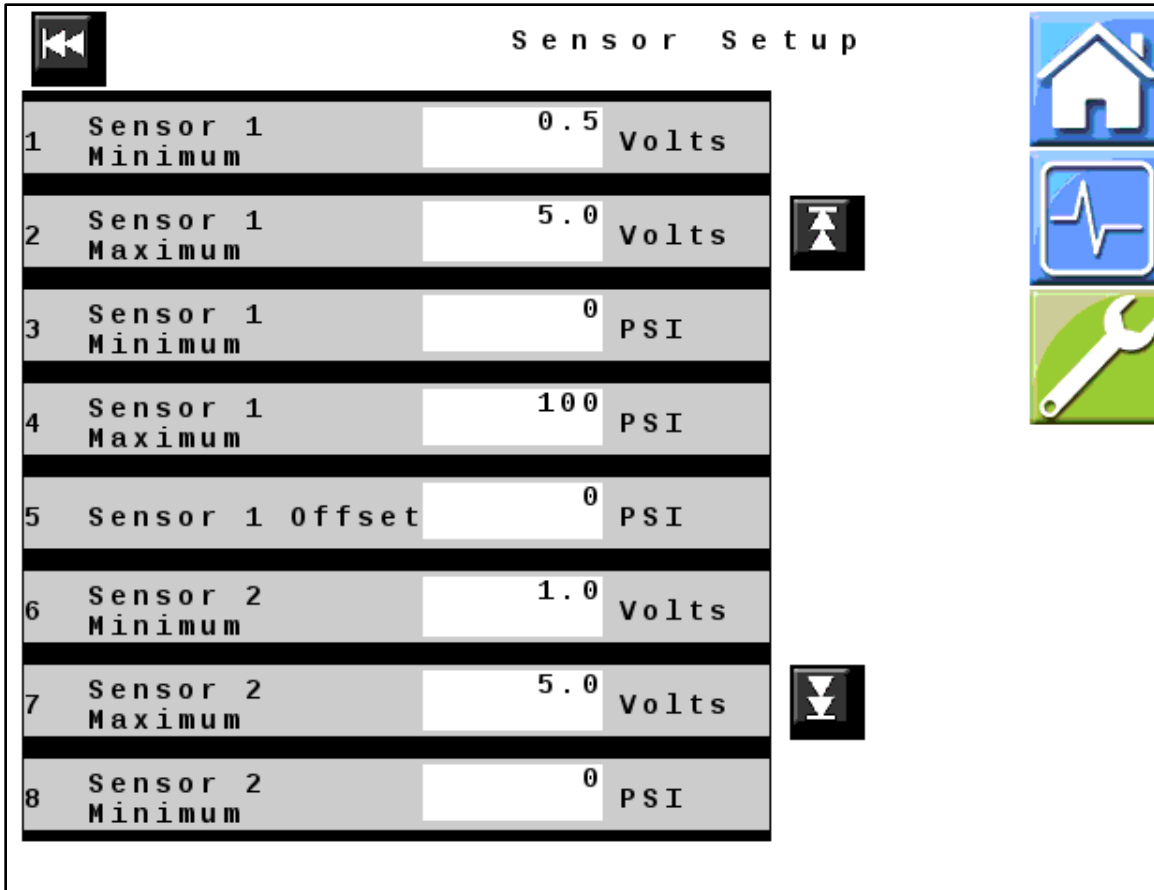

Figure 16 — Sensor Setup Page 1
30. *Figure 16:* Verify that all values displayed on your unit match those shown here. Change values if necessary.